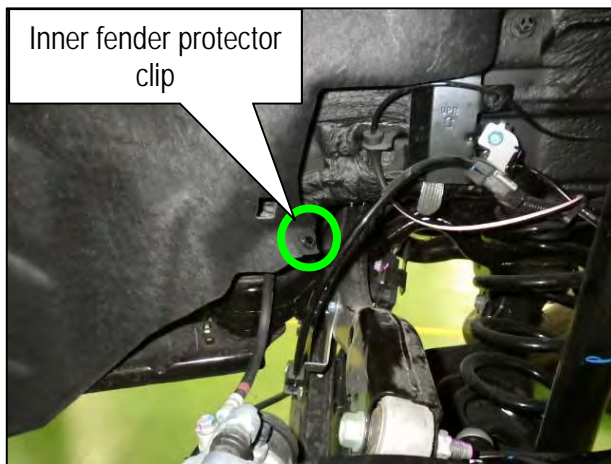
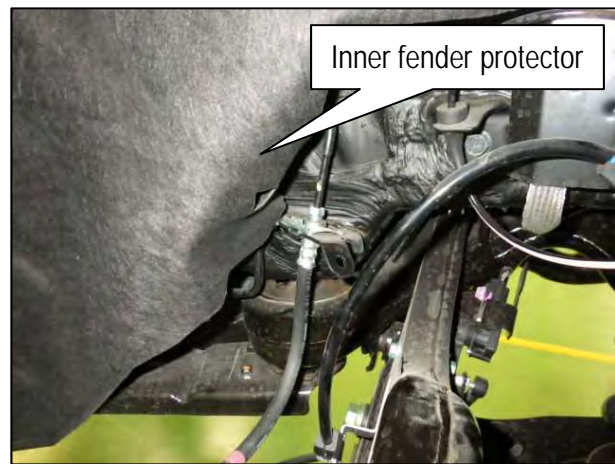

Figure 65
Figure 66
39. Remove the inner fender protector clip (Figure 65), and then position the inner fender protector out of the way, as shown in (Figure 66).